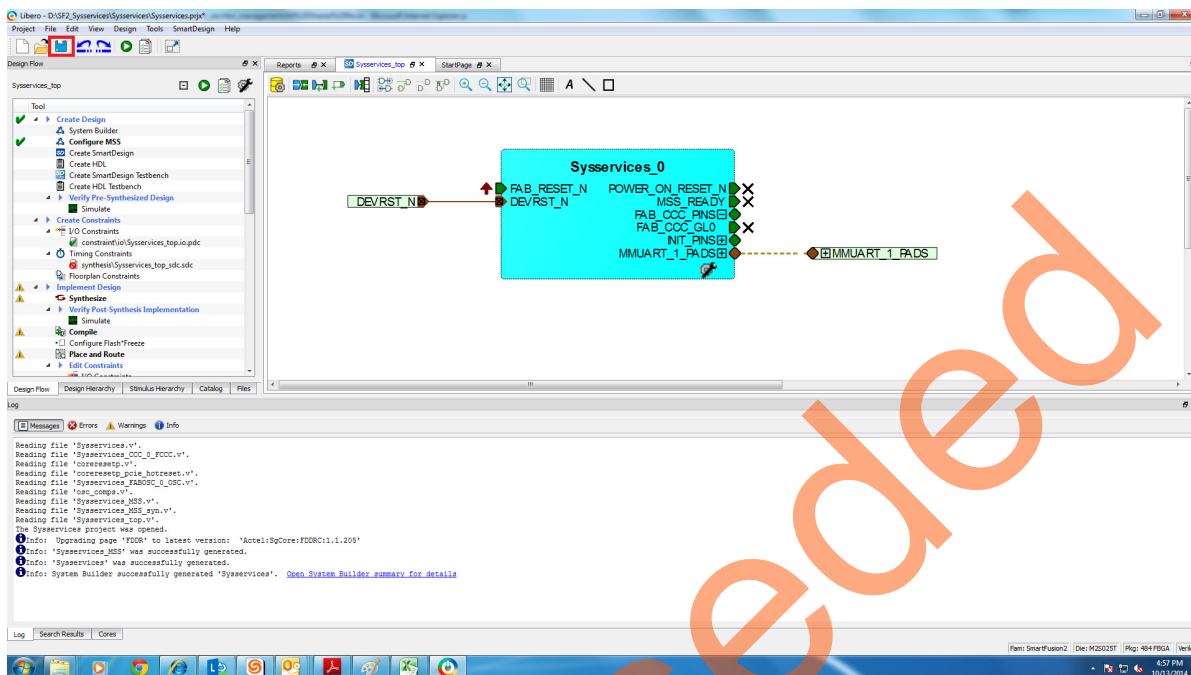

Figure 10 • Updating the Syssservices_0
11. Select **File > Save** to save **Sysservices_0**. Select the **Sysservices** tab on the Smart Design canvas, as shown in Figure 10.